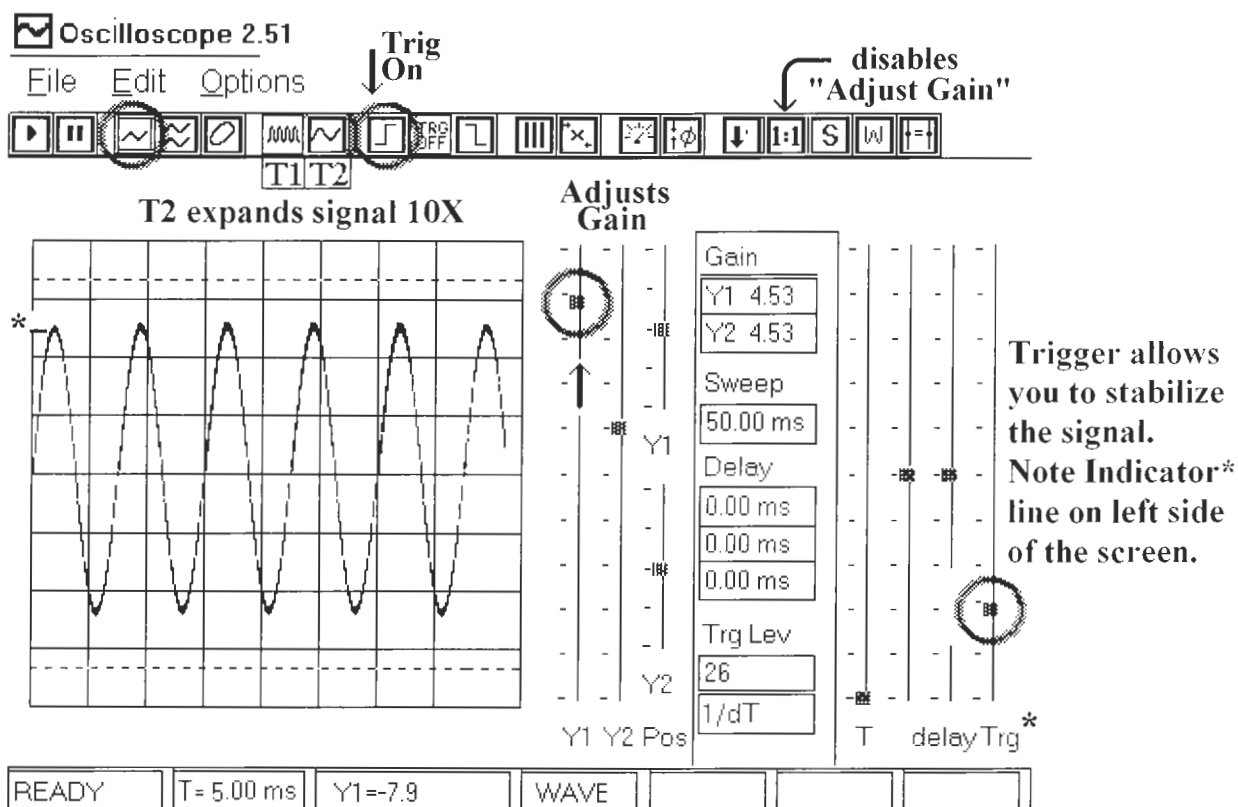

Figure L54-1
- a. Hook up your speaker to the test cord, not the one with the voltage divider built in. Plug the test cord directly into the computer sound card microphone input. We are not using the oscilloscope probe. The signal is too small. If we used the voltage divider, it would not register. Use the oscilloscope setup shown here in Figure L54-1.